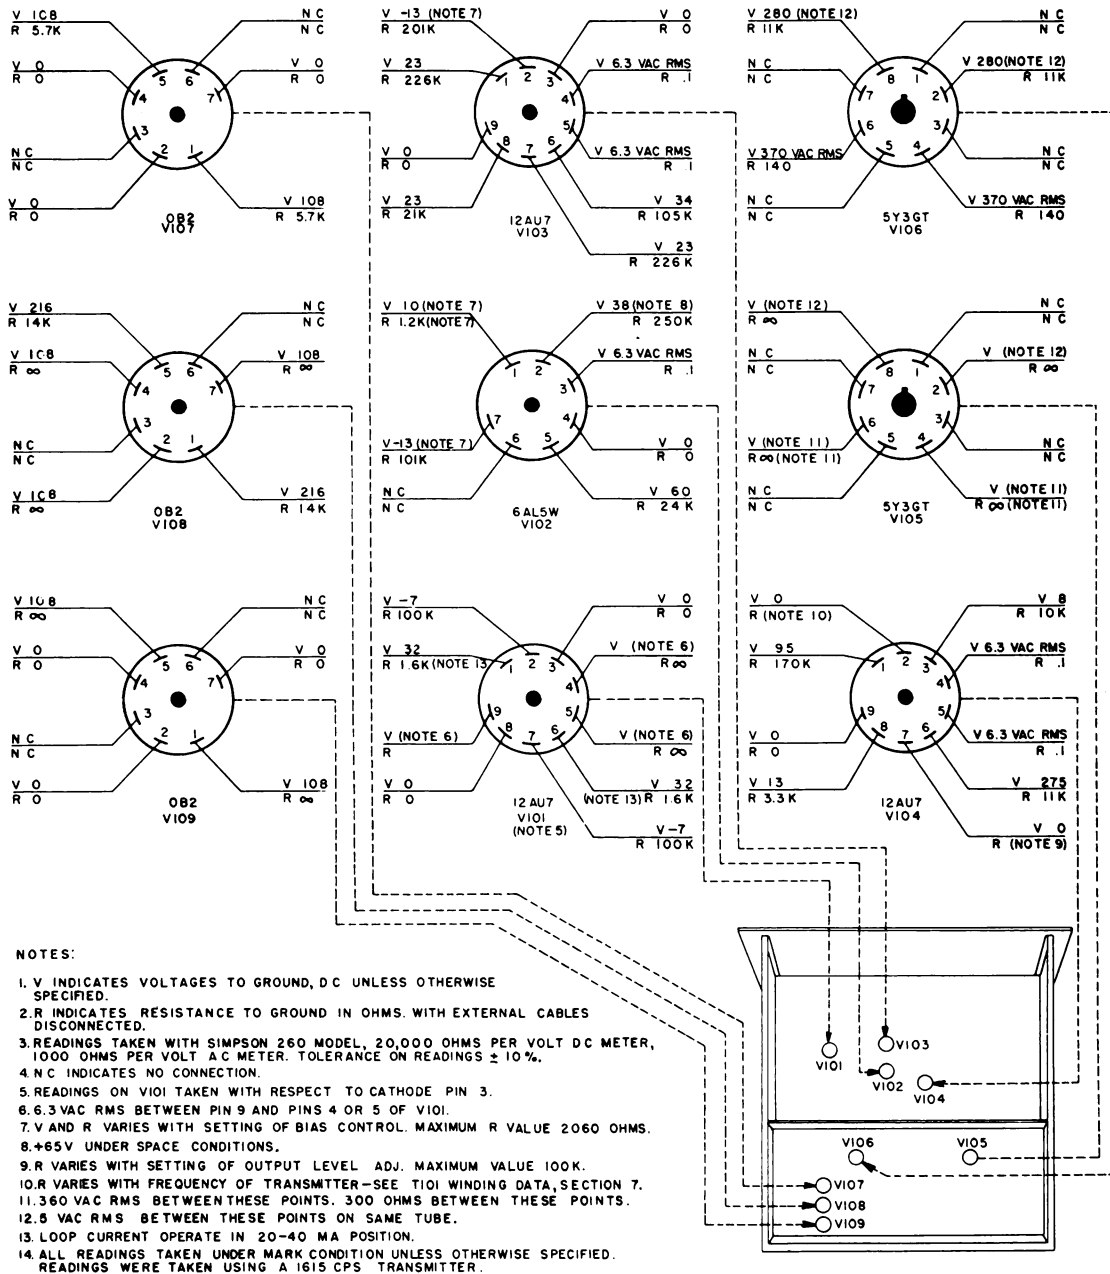
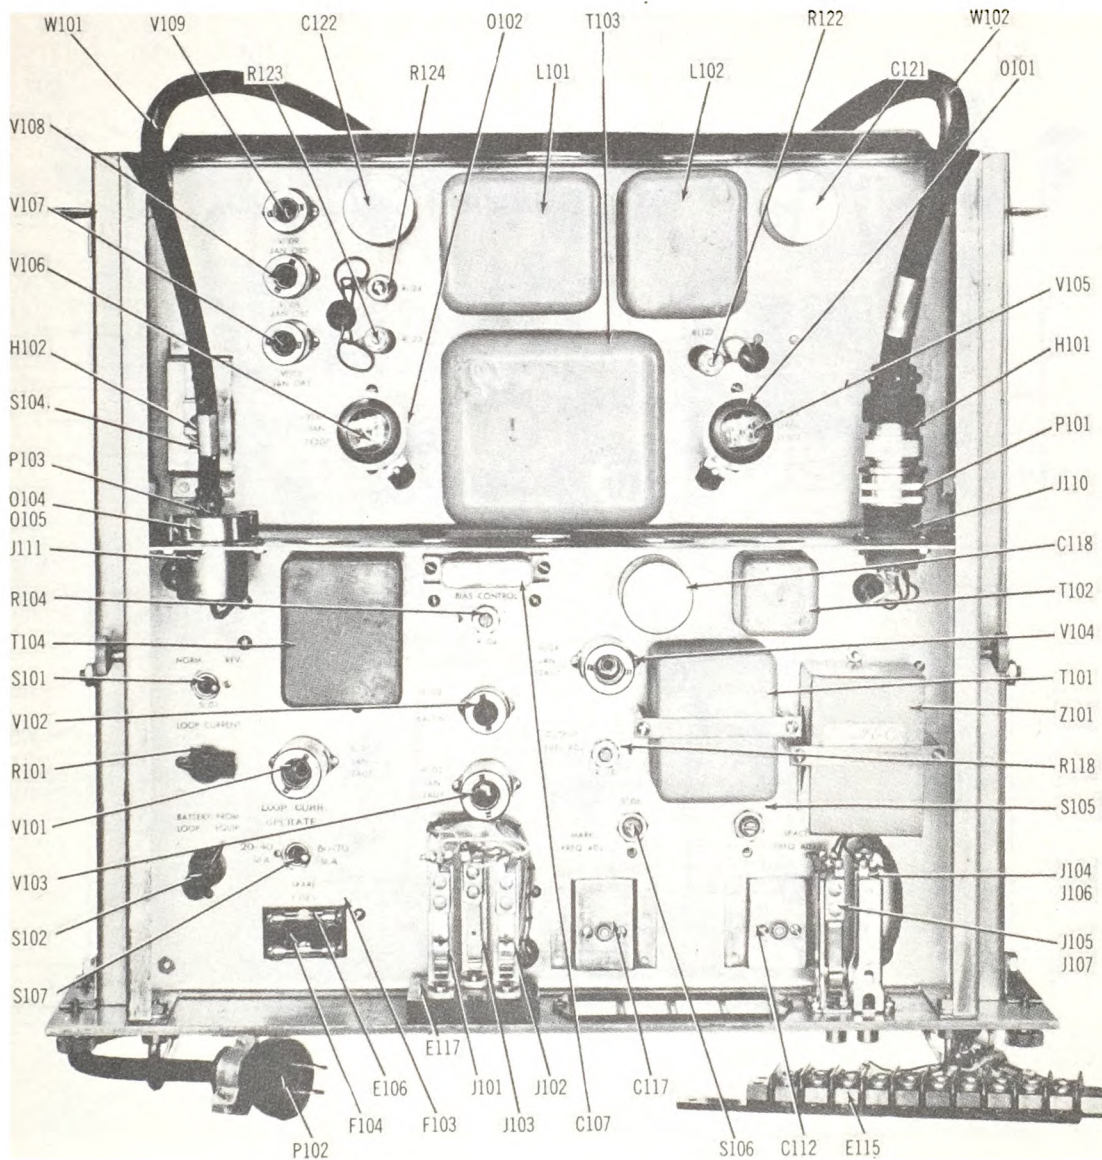
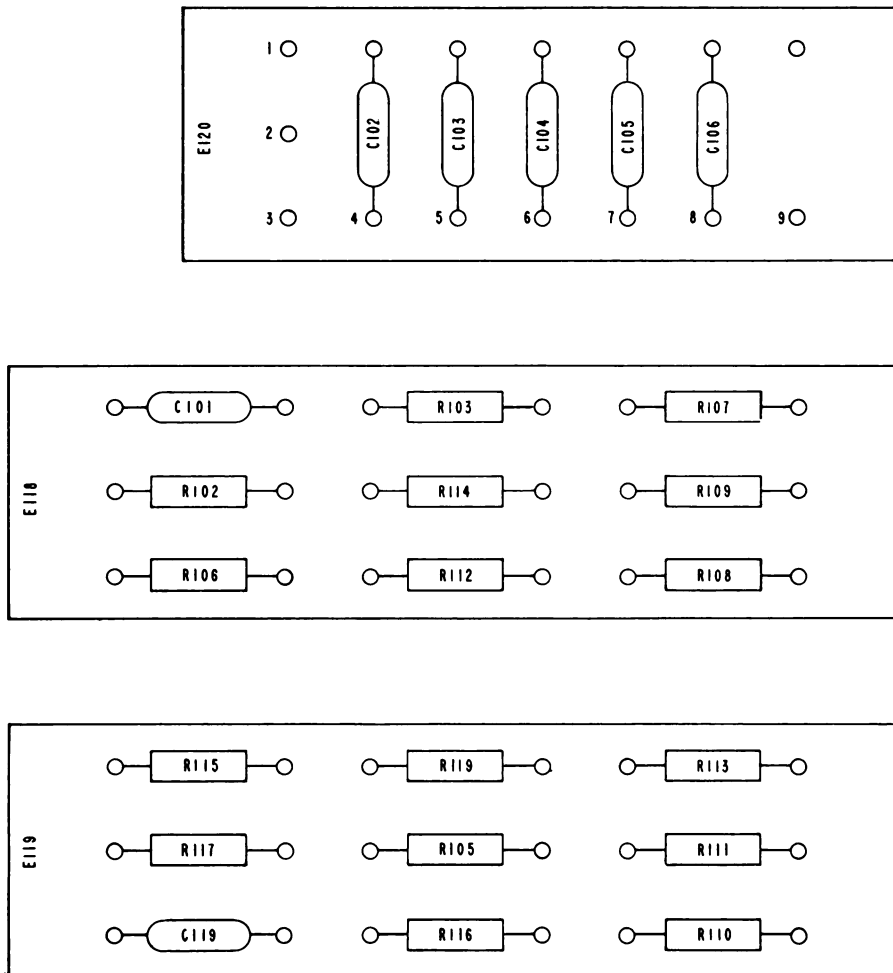

Figure 7-4. Telegraph Carrier Transmitter Voltage and Resistance Chart
Figure 7-5. * Top View of Telegraph Carrier Transmitter
Figure 7-7. Components Location, Terminal Boards of Telegraph Carrier Transmitter
a. GENERAL. - The telegraph carrier transmitter converts the DC telegraph pulses to frequency shift carrier signals. A failure in this unit normally affects only the channel in which it is used. The MARK and SPACE frequency, signal level, and bias settings of the transmitter should be checked before detailed trouble shooting is started. The block diagram of figure 7-2 will be found helpful in trouble shooting this unit. The trouble shooting chart of table 7-2 describes a signal tracing method for determining trouble. The applied signal for testing can be generated by a telegraph printer or a Distortion Test Set TS-383A/GG. If a telegraph printer provided with a repeat key is used, hold down the repeat key and a single character key such as "R". If a Distortion Test Set TS-383A/GG is available, it can be set to transmit an "R" character. The wave shapes shown on the block diagram of figure 7-2 are those of a 50% MARK and SPACE signal. A letter character would include several MARK and SPACE pulse lengths. A faulty unit can be caused by jacks, 15 kc oscillator circuit, power supply, DC amplifier, carrier oscillator circuit, output amplifier, or filter. After using table 7-2 to locate the stage in which the trouble is located, refer to the schematic diagram of figure 7-8 and trouble shoot the individual components. Typical voltages and resistances are given in figure 7-4. The physical location of the components can be determined from the wiring diagram of figure 7-9 and the top and bottom views of the unit as shown in figures 7-5 and 7-6. Figure 7-7 locates the components on the terminal boards.